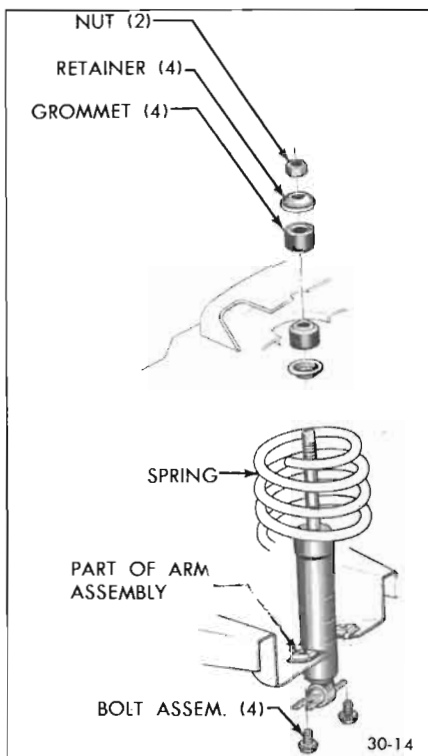

Figure 30-14—Shock Absorber Installation
- Disconnect and remove shock absorber. Refer to Figure 30-14 for detail.
9. Lower jack from beneath lower control arm. Connect shock absorber. See Figure 30-14.
1. Remove upper shock absorber attaching nut, grommet retainer, and grommet. See Figure 30-14.
2. Extend shock, install one grommet retainer, and one grommet on absorber and slide through hole in lower spring seat. Attach with two screws torqued to 12-24 lb. ft. See Figure 30-14.